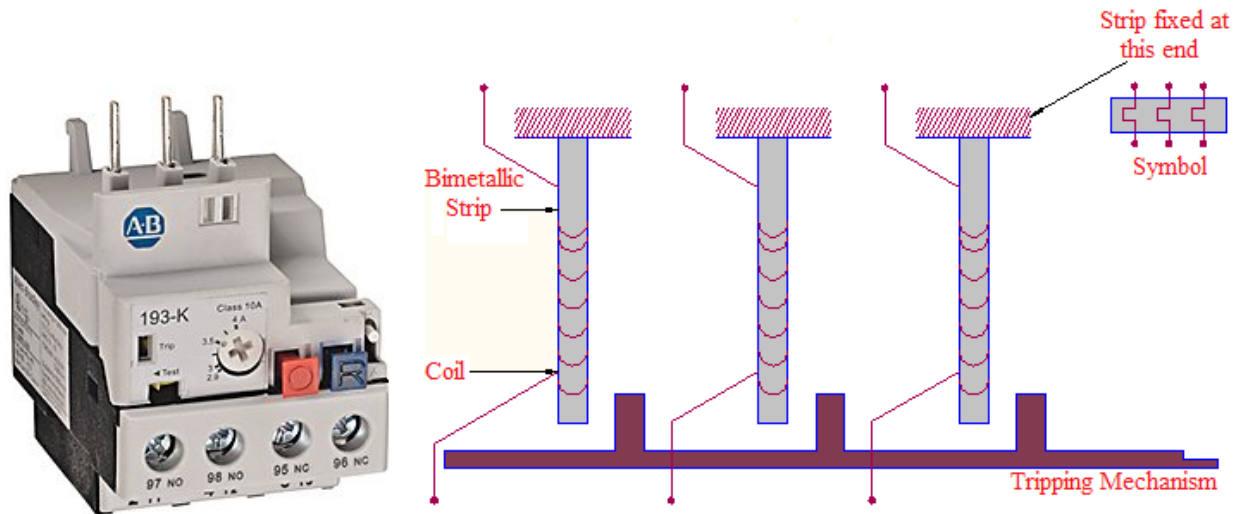

Fig.5.16 Bimetallic thermal overload relay
- The relay consists of three bimetallic strips with current coils wound on them as shown in fig.5.16. The whole of the assembly is mounted on a Bakelite enclosure.